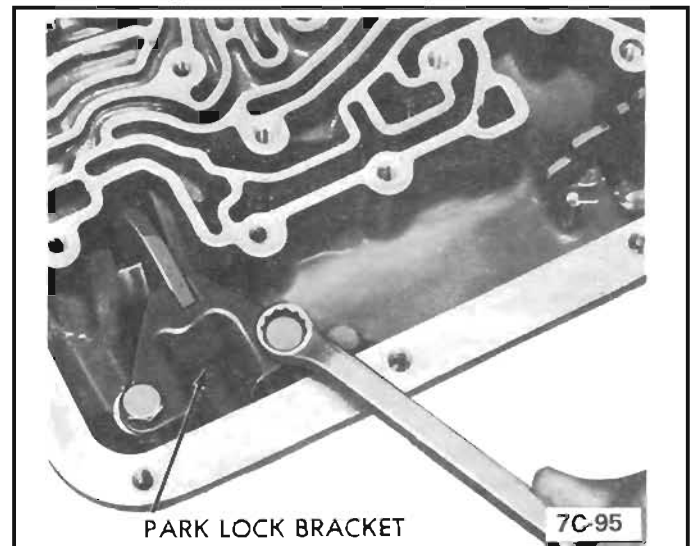

Figure 103 Park Lock Bracket Installation
4. Install park lock bracket, torque bolts to 29 ft. lbs. (39N*m). See Figure 103.